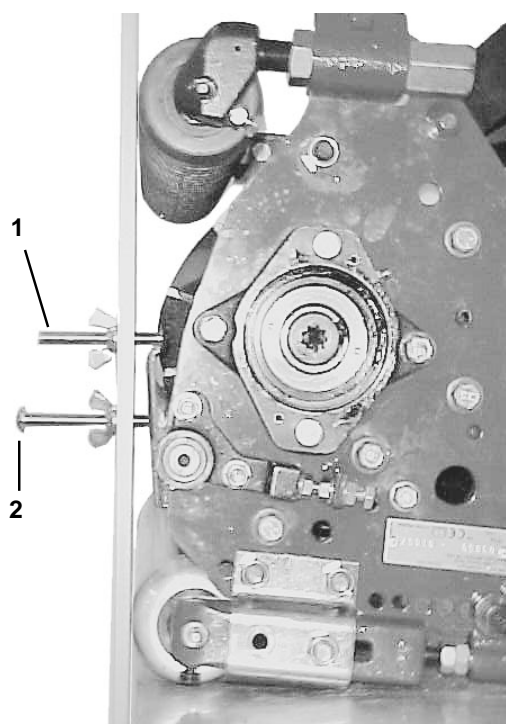

Figure 13
4. With the cutting unit rotated vertical, place gauge bar across front and rear rollers. The first screw head should fit snugly over the edge of the bedknife. The end of the second screw should contact the bottom of the bedknife (Fig. 13). If there is a gap between the front roller and the gauge bar, lower the front roller until it contacts the gauge bar. Verify front roller (attitude) at each end of the bedknife.